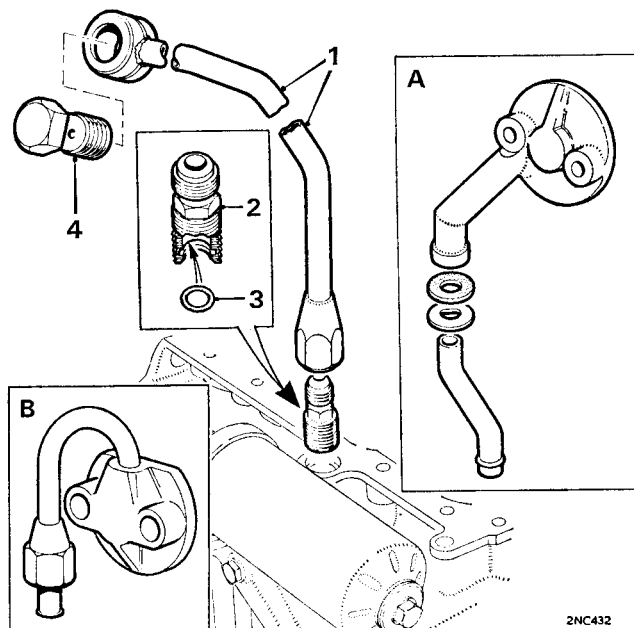

Fig. Fa.23
49. Refit the engine oil feed pipe as shown in Fig. Fa.23.